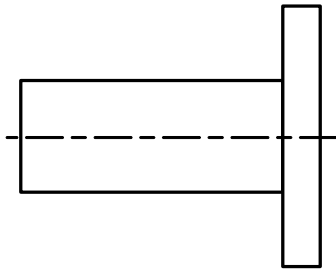

Fig.2
- a) Weld the flanges to the straight pipe runs (pipeline) considering that the straight pipe run (pipeline) axis should be perpendicular to the flange plain adjacent to the flow pipe (see Fig.2).